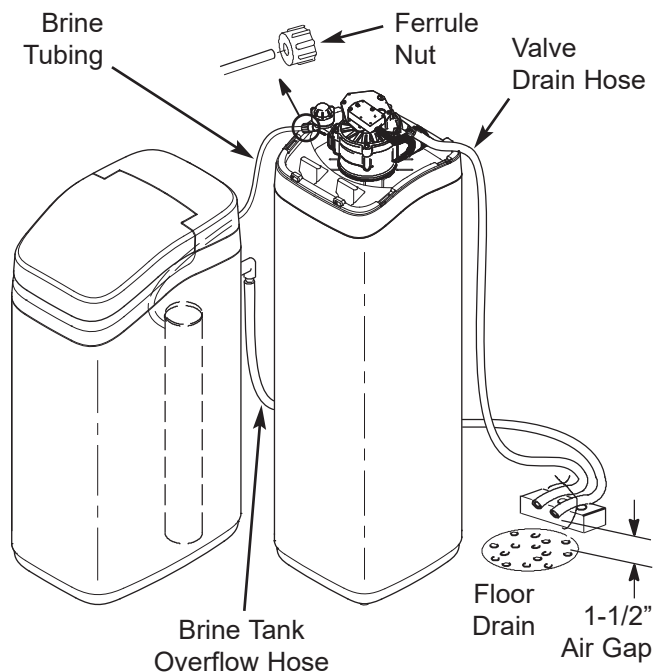

FIG. 16
- Connect the brine tube to the nozzle/venturi assembly using the ferrule nut provided (See Figure 16).